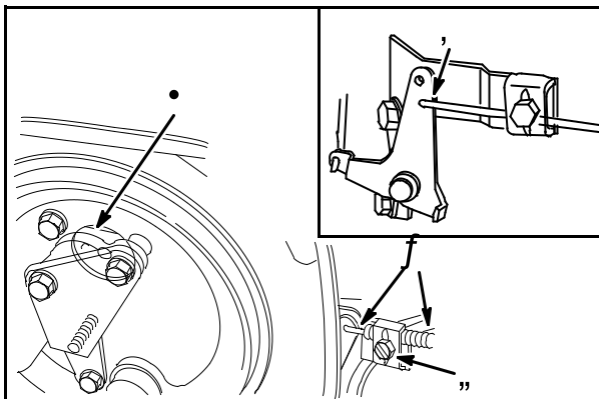

Fig. 24
NOTE: Be sure choke control wire is installed in #2 hole (2) in choke lever, **Fig. 24**.